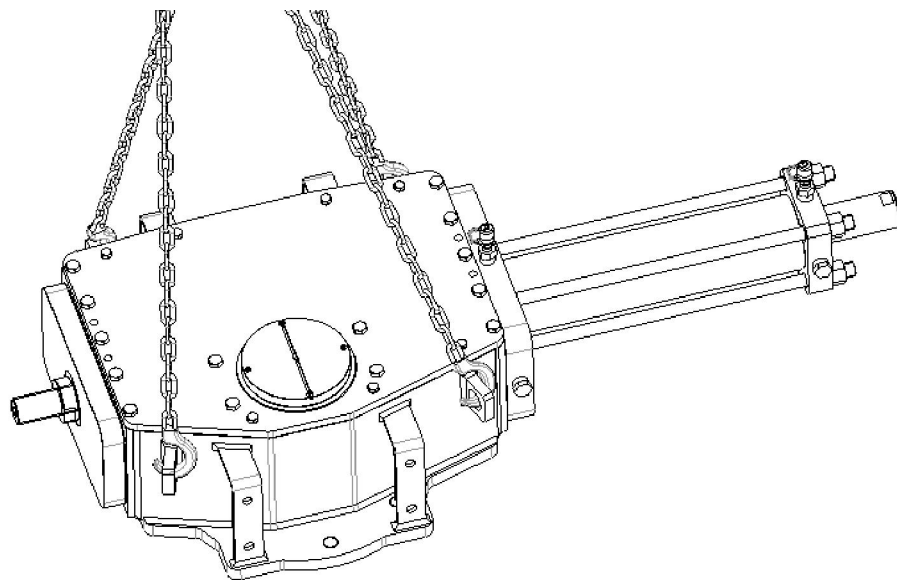

Fig. 2 – Lifting points for RTQH actuator series
Warning: Lift the actuator as shown in Fig.2.
- Conditions in which the machinery meets the requirement of stability during use, transportation, assembly, dismantling when out of service, testing or foreseeable breakdowns, are shown in Fig.2.